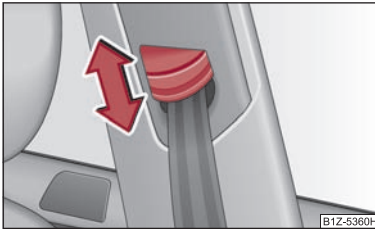

Fig. 4 Front seat: Seat belt height adjuster
- Press and move the height adjuster in the desired direction up or down ⇒ fig. 4.